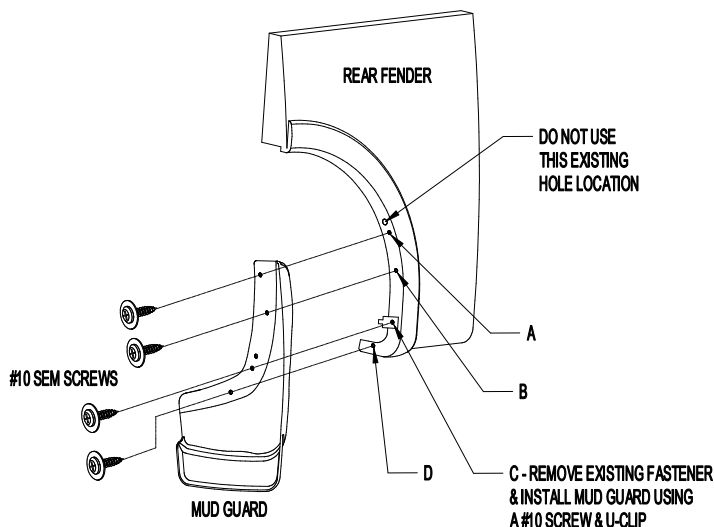

Figure 1
1. Remove existing fastener from fender flare and fender at location C; it may be necessary to cut the heads off of the existing plastic fastener and push the remaining stud through the hole (Figure 1).